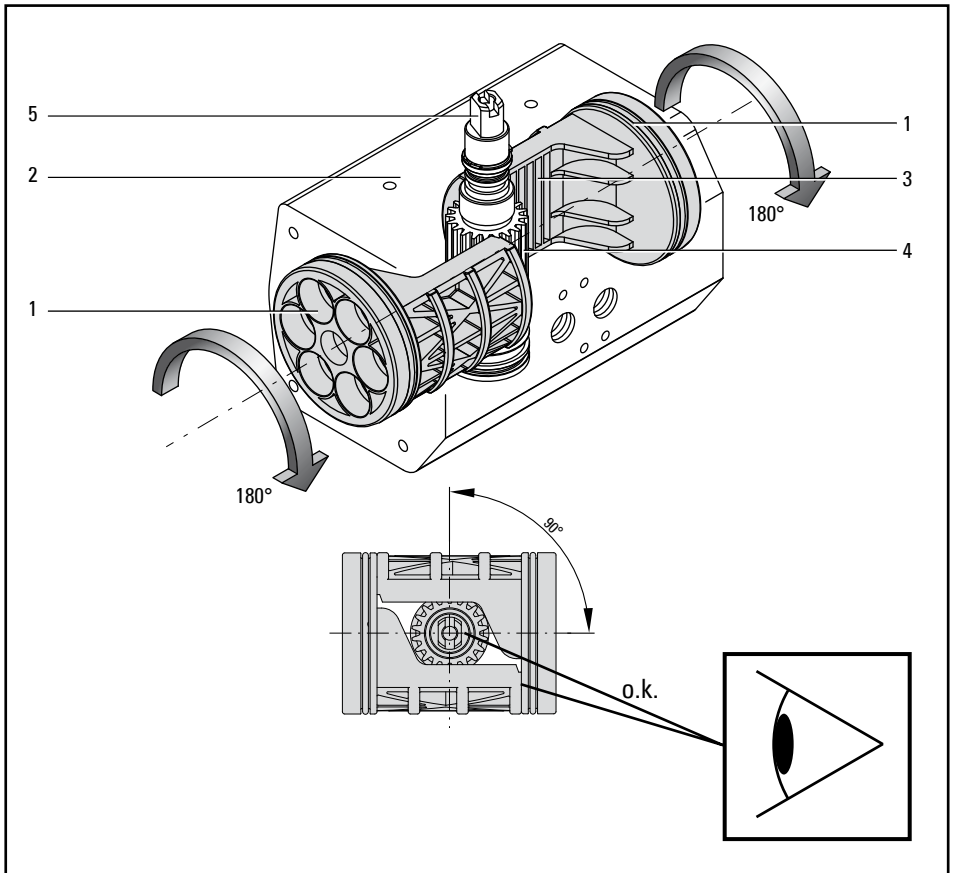

Fig. 5.3 - Change of the rotation direction, Turning of the pistons
Turn around the pistons (1) about 180°, don't take the pistons out of the body (2) at this (see Fig. 5.3).